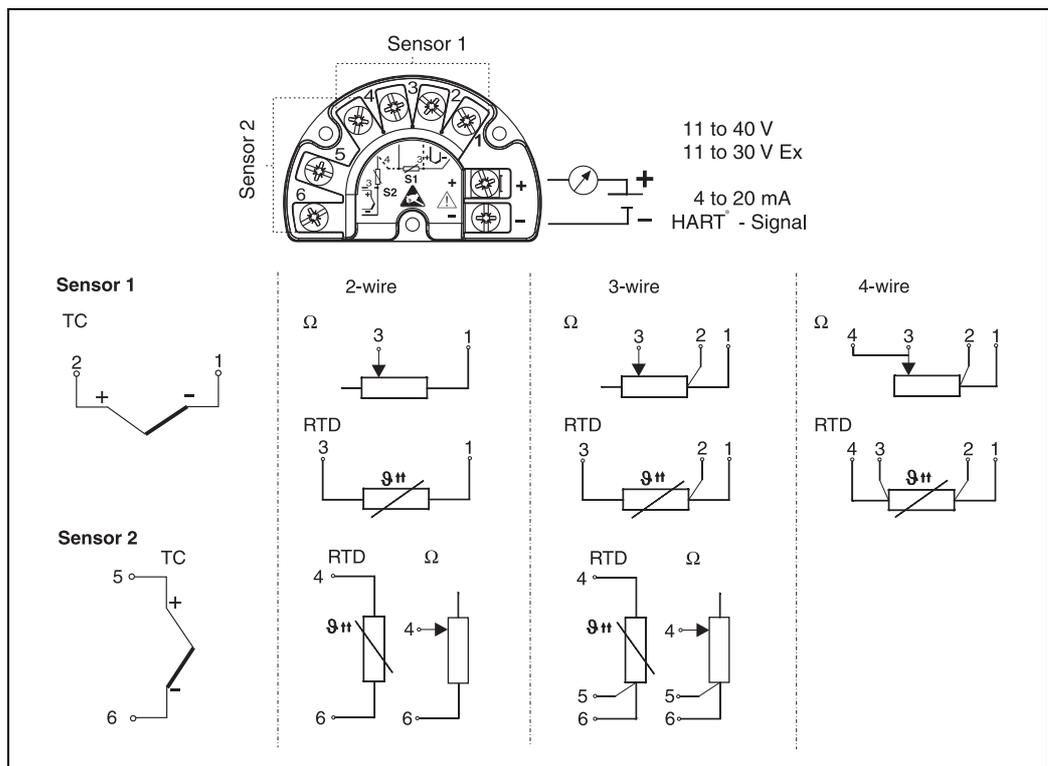

Fig. 5: Wiring the field transmitter
3. Connect the leads as shown in Fig. 5.
For sensor connection terminal layout please see Fig. 5. On two sensor inputs the following connection combinations are possible:
Have the cables been correctly connected? Compare with the connection schematic on the terminals or see Fig. 5.	See connection schematic on the housing
The setup and measured value read out of the measuring device is done using the HART[®] protocol. The digital communication is done using the 4 to 20 mA current output HART[®] (see Figs. 5 and 6). There are a number of possible setup methods available to the user: